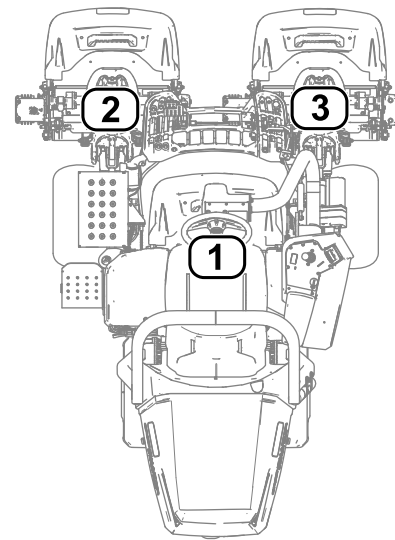

Figure 32
- **1** refers to the center cutting unit (Figure 32)
- **2** refers to the front left cutting unit (Figure 32)
- **3** refers to the front right cutting unit (Figure 32)